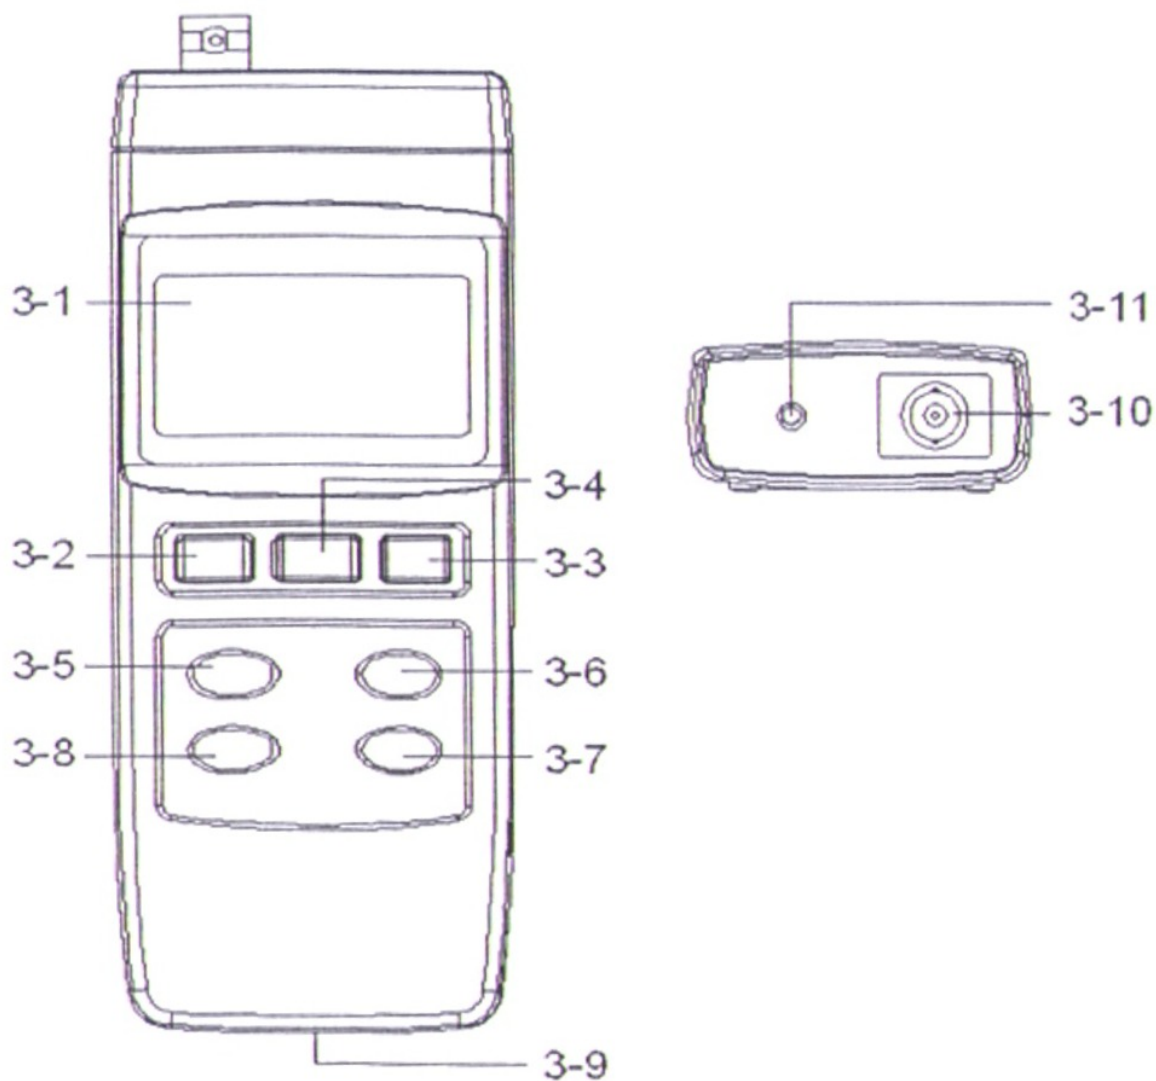

Fig. 1
- 1) Power on the instrument by pressing the " Power Button " (3-2, Fig. 1).
- 2) Press the " PH/mV Button " (3-6, Fig. 1) to let meter be operated under the PH function with a " PH " symbol on the display.
Connect the PH ELECTRODE with the " BNC socket " (3-10, Fig. 1) and immerse the electrode in the PH7 buffer solution.
Press the " CAL Button " (3-8, Fig. 1) then the upper display shows texts of " CAL " and the lower display shows the default calibration value.
- 1) Connect the PH ELECTRODE to the " PH BNC Input Socket " (3-10, Fig. 1).
- 2) Power on the instrument by pressing the " Power Button " (3-2, Fig. 1).
- 3) Press the " PH/mV Button " (3-6, Fig. 1) to select the PH function with a "PH" symbol on the display
Before the manual temperature compensation calibration procedures, please make sure there are no ATC probe (TP-07) in the " Optional Probe Input Socket" (3-11, Fig. 1).
- 2) Press the " PH/mV Button " (3-6, Fig. 1) to select the PH function with a " PH " symbol on the display
- 3) " TEMP. C Button " (3-7, Fig. 1) is used to adjust the following values :
- * **Press the " TEMP. C Button " (3-7, Fig. 1) first,**
- @ Use the " Left Button " (3-6, Fig. 1), " Up Button " (3-5, Fig. 1) and the " Down Button " (3-8, Fig. 1) to adjust the manual temperature compensation value.
- * **When the manual temp. compensation values be adjusted. Press the " TEMP. C Button " (3-7, Fig. 1) once again to adjust the PH 4 default calibration value.**
@ Use the " Up Button " (3-5, Fig. 1) and the " Down Button " (3-8, Fig. 1) to adjust the PH 4 default calibration value.
* **When the PH 4 default value be adjusted. Press the " TEMP. C Button " (3-7, Fig. 1) once again to adjust the PH 7 default calibration value.**
@ Use the " Up Button " (3-5, Fig. 1) and the " Down Button " (3-8, Fig. 1) to adjust the PH 7 default calibration value.